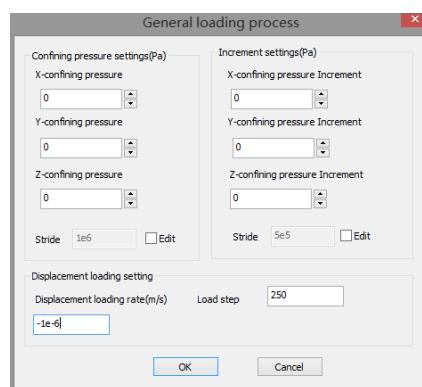

Figure 36 Uniaxial loading control
- (5) Set the loading control method for general mechanical problems (Figure 36);